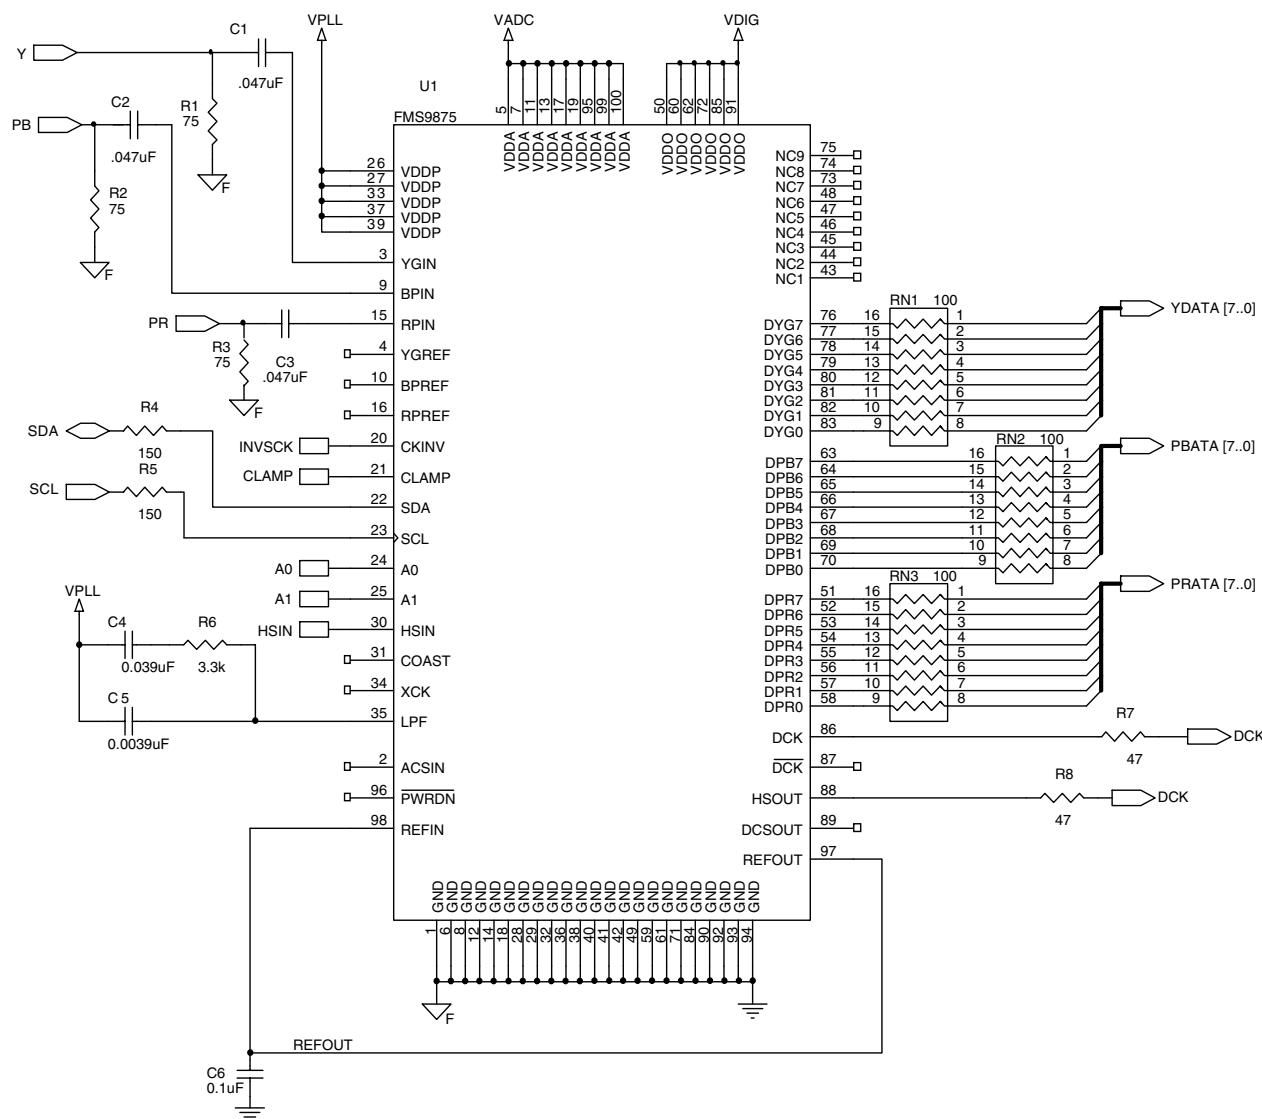

Figure 24. Schematic, VGA Digitizer, AC Coupled RGB
Shown in Figure 24 is an implementation of a video digitizer with AC coupled YPBR inputs. Horizontal sync input.
3. Each  $V_{DDP}/GND$  pin pair: 26&27/28, 33/32, 37/38, and 39/40 should be decoupled with a either a 0.01 or 0.1  $\mu F$  capacitor (see Figure 24).